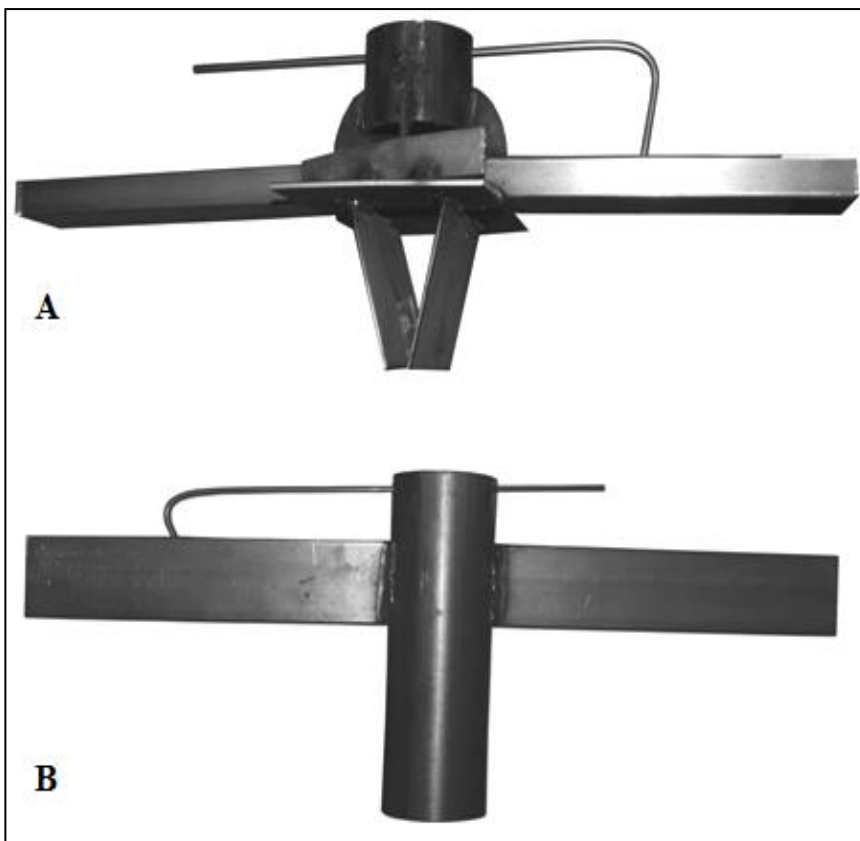

Fig. 5.2. **A** - Air distributor for firewood logs, timber waste, sawdust briquettes. **B** - tubular air distributor for coal or peat briquettes.
Use the air distributor (9) (see figure 5.2. A.) then heating firewood. Load firewood logs horizontally: longer one - in the middle and shorter - at the side. It is useful to fill spaces between firewood logs with sawdust or fine tree waste. Use a pipe air distributor (figure 5.2. B.) for burning small coal, a boiler with small coal operates at 50 – 70% lower mode therefore use small coal during warmer days. When loading peat turf, firstly load large briquettes and then fine peat turfs.